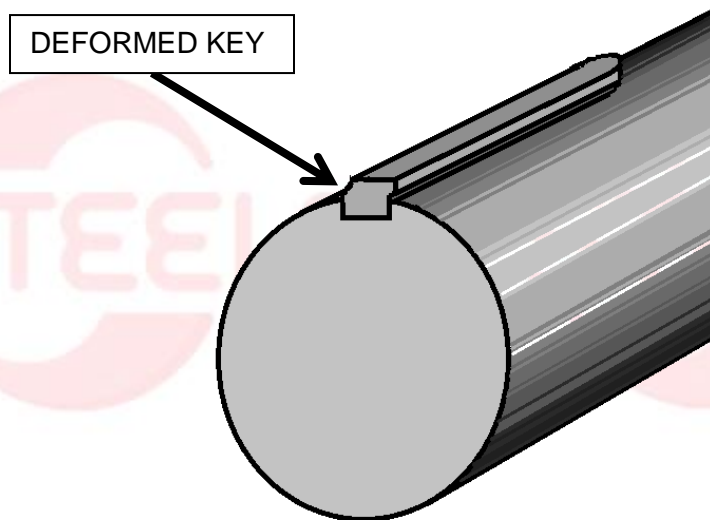

FIG 10: Deformation in the feed roll shaft coupling key
- Repeated exposure to high torque can cause deformation in the **coupling keys**, as shown in Figure 10.